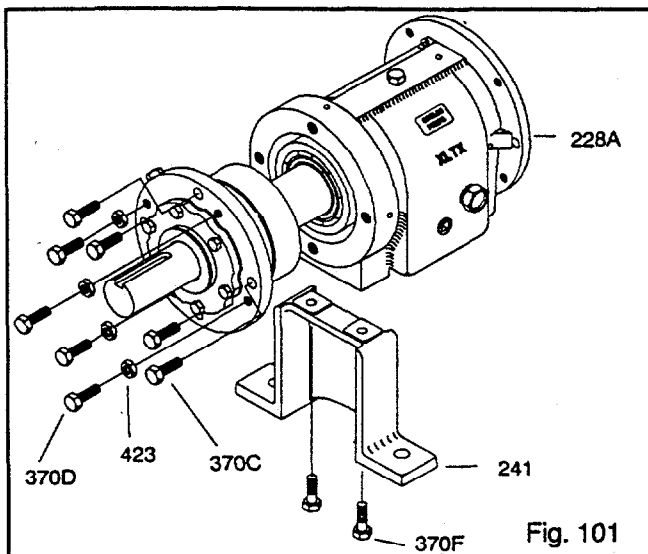

Fig. 101
11. Coat outside of bearing housing (134) with oil.
13. Install shaft assembly into frame (228A). Check shaft for free turning (Fig. 101).
14. Install clamping bolts (370C) into bearing housing (134). Hand tighten.
15. Install jacking bolts (370D) with locking nuts (423) into housing (134). Hand tighten.
16. Attach bearing frame foot (241) with bolts (370F). Hand tighten.